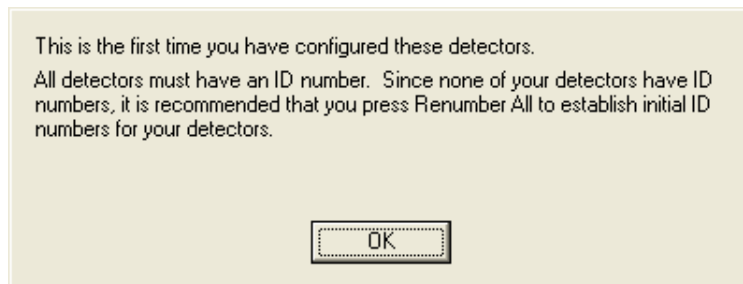

Figure 39. New Instruments Must Have a Non-Zero ID Number.
- If this is the first time the digiBASE has been configured (that is, if the system has not been pre-configured), you will first see the dialog shown in Fig. 39, a reminder that all new instruments must be assigned a unique, *non-zero* ID number. Click on **OK** then click on the **Renumber New** button.